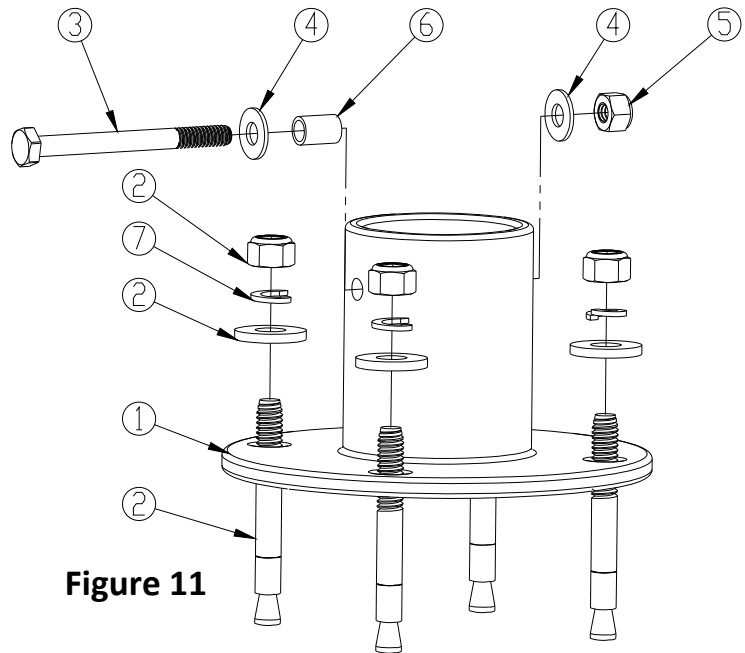

Figure 11
- 16) Using the four holes on each flange as a template (see Figure 11 below), drill four 5/16" holes per flange 1-7/8" deep. **CAUTION: Do not drill holes larger than 5/16"**. Maintain drill hole straight and perpendicular for proper holding strength of anchor stud.